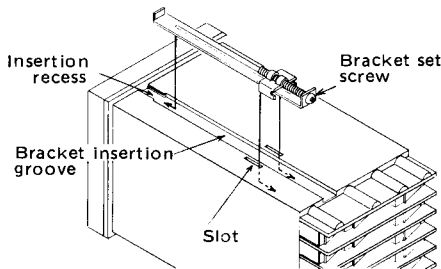
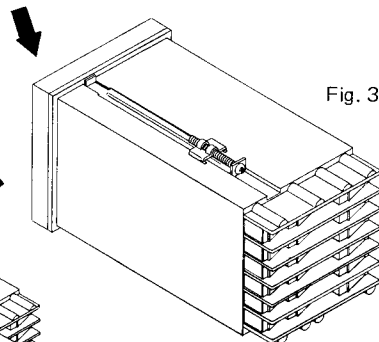

Fig. 2
Fig. 3
- Insert an upper mounting bracket along a bracket insertion groove from the back, and then engage a projection at the bracket end with a recess at the groove front and also insert metal fitting legs into slots. (Fig. 2 & Fig. 3)